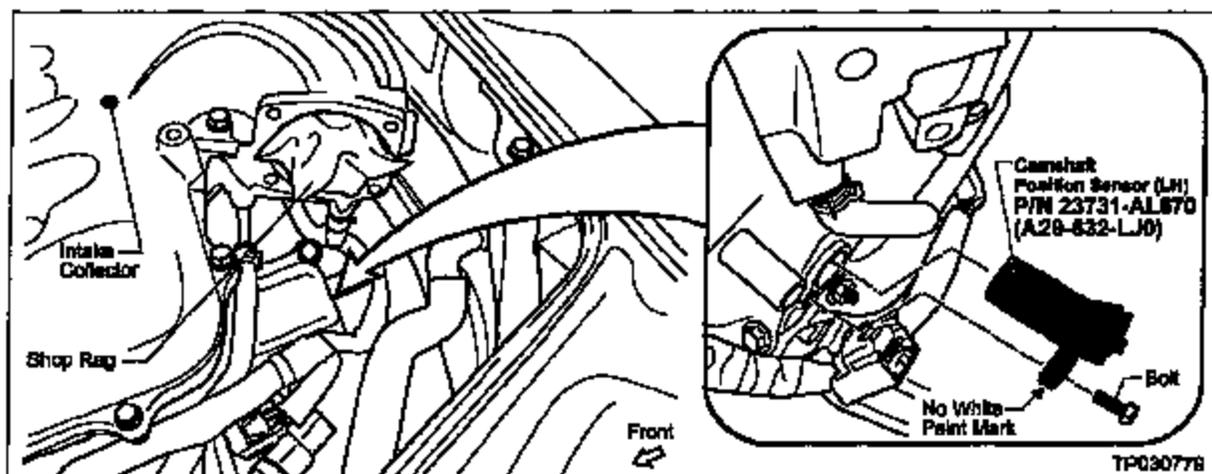

Figure 16
CAUTION: Avoid engine damage; place a shop rag in the opening of the intake collector (see Figure 16, next page).
4. Locate the driver's side (LH) Camshaft Position Sensor (see Figure 16).